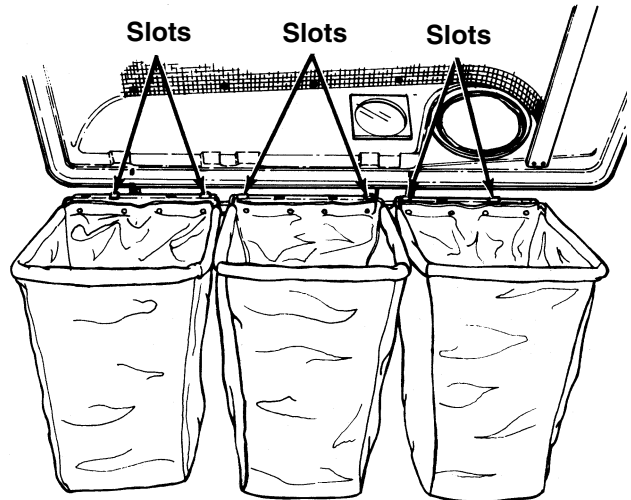

Figure 6
3. Attach the grass bags using the slots as shown in Figure 6.